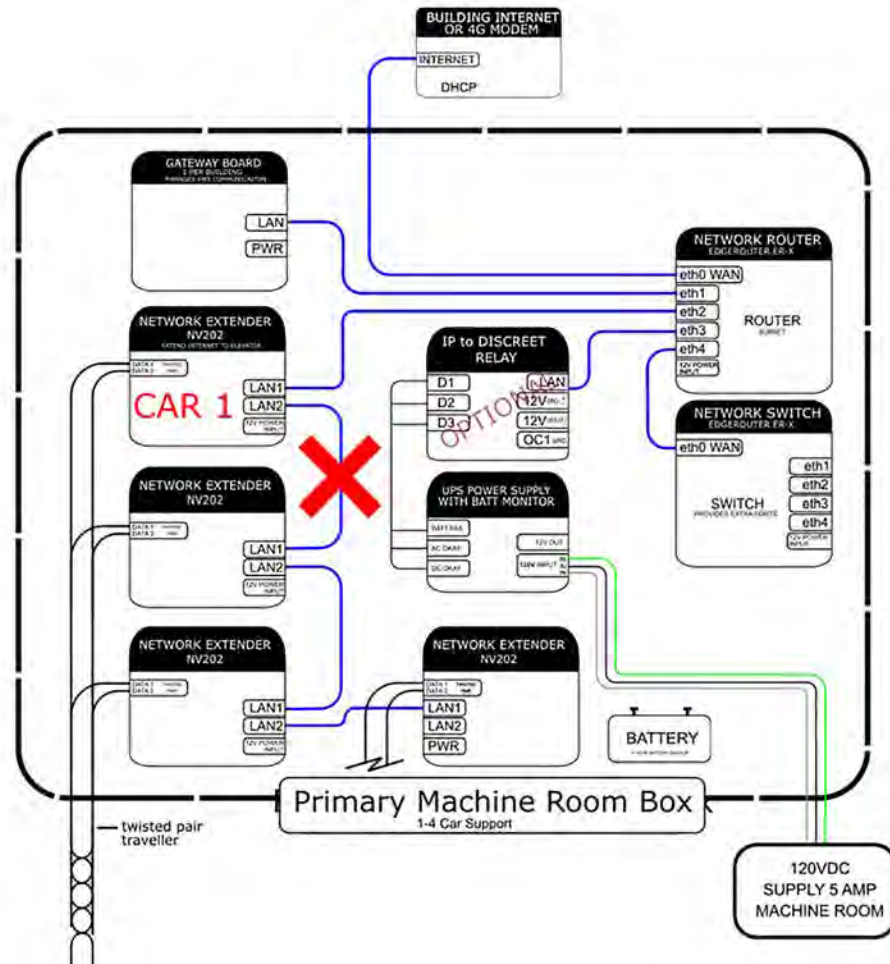

Figure 6 - Disconnect Cat5e Cable
2. Disconnect the Cat5e cable from LAN1/LAN2 on the NV202 Ethernet extender for each car that is not currently being provisioned. Verify that only Car 1 has a network connection to the PEB. See Figure 6.